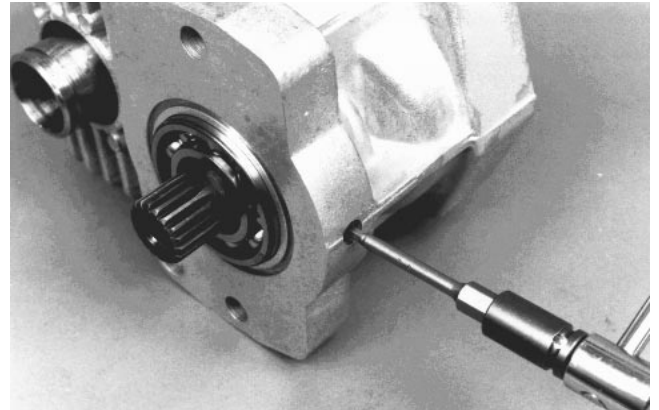

Figure 67
12. Install pipe plug over motor shaft bearing retaining pin and tighten to a torque of 6 to 9 ft-lb (Fig. 67).